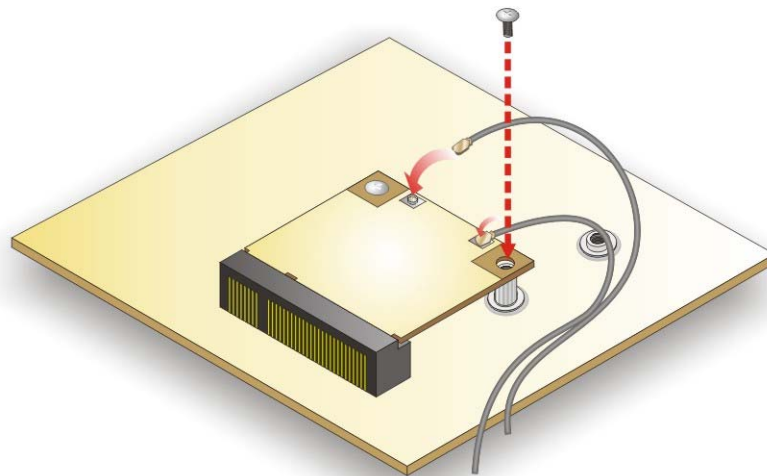

Figure 3-15: Securing WLAN Module and Connecting RF Cables
Step 7: Secure the WLAN module with the retention screw previously removed (**Figure 3-15**).
Step 8: Connect the two RF cables to the antenna connectors on the WLAN module (**Figure 3-15**).